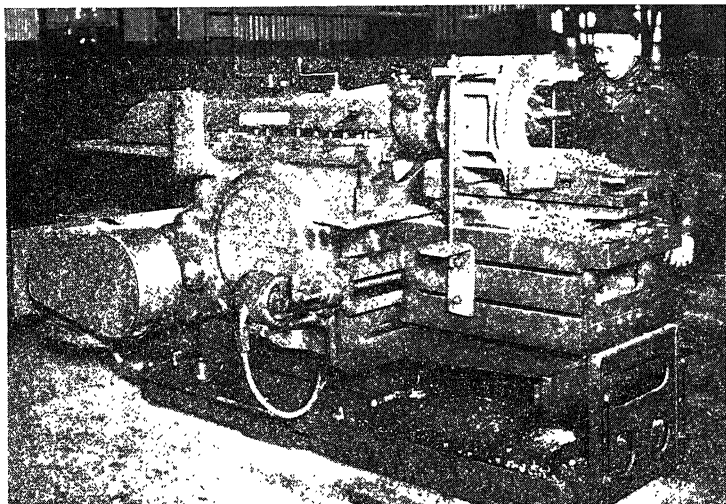

FIG. 4.—A special job in a 24-in. shaper. (Courtesy of The American Tool Works Company.)
*The Shaper.*—The shaper (Fig. 4) is ordinarily used for finishing flat or partly curved surfaces of metal pieces few in number and not usually over a foot or two long. In the shaper, the cutting tool has a reciprocating (forward and return) motion, and cuts on the forward stroke only. The work is usually held in a vise bolted to the work table and the